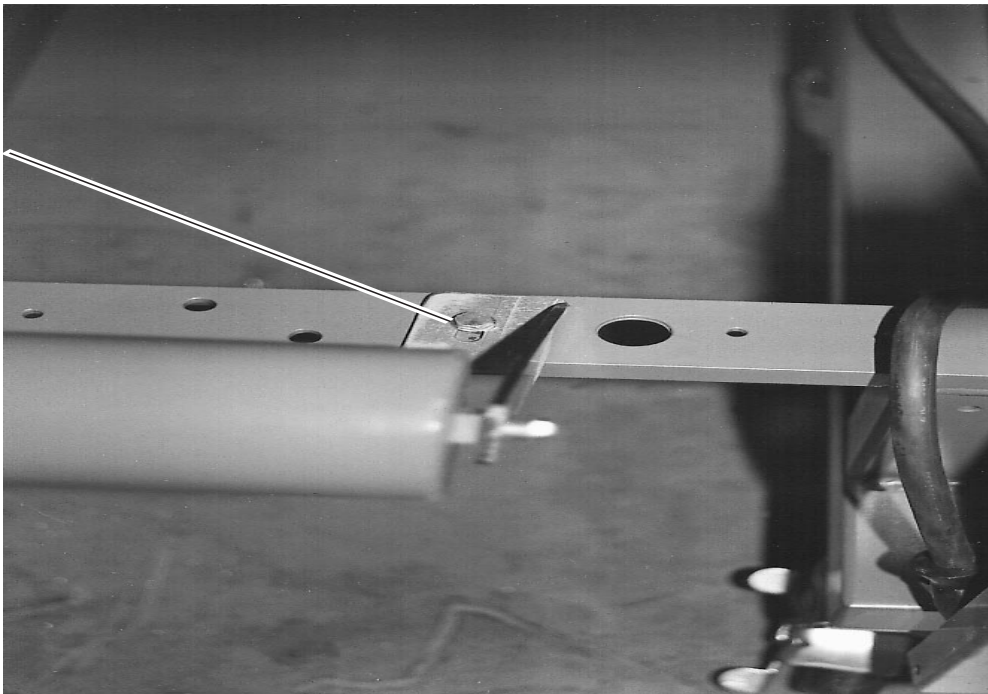

Fig. 46
6. With the 7/16" socket remove the clamp hardware securing the tube to the ball valve assembly. Also if the tube/extension section is located at the end of a battery to facilitate an RO Frymate using a 5/16" socket remove (1) bolt mounting the tube/extension bracket to the fryer base frame. (Fig. 46)